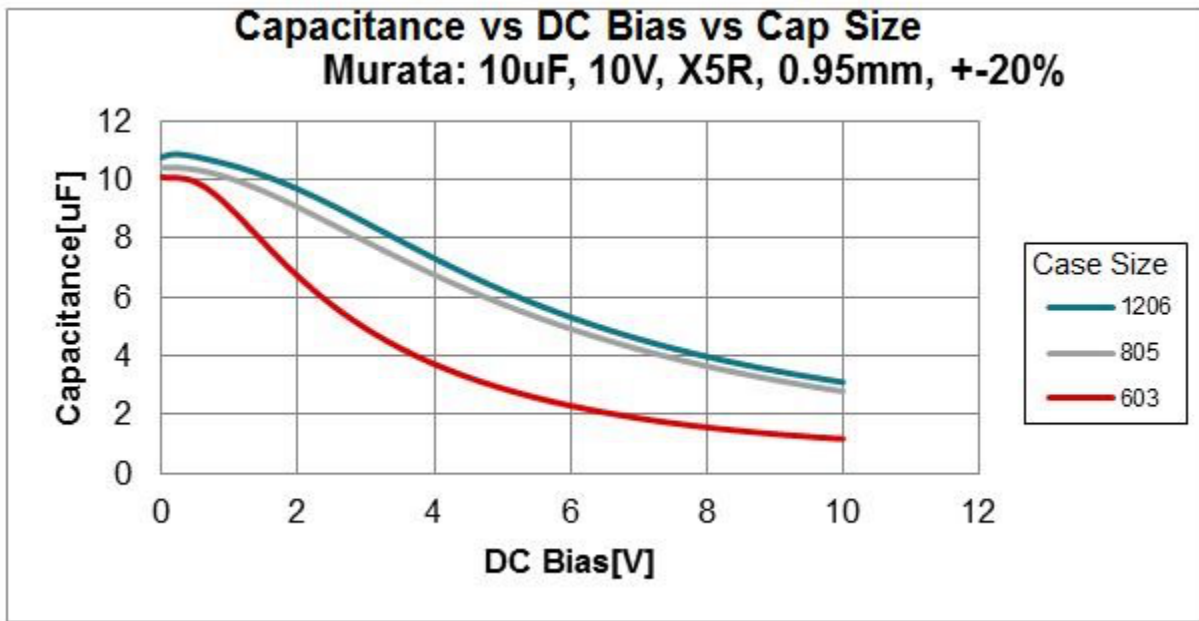

Figure 2. Capacitance vs. DC Bias vs. Capacitor Size
Figure 2 shows the effects of applying voltages to a capacitor and the resulting capacitance. Notice how the larger case size loses less capacitance; this is because larger case sizes have more dielectric between the conductors, which reduces the strength of the electric field and locks on fewer dipoles.
- DC bias derating: By using the chart provided by the manufacturer of the DC bias characteristics for a capacitor (Figure 2), you can see that the capacitance value will be 7 μ F.